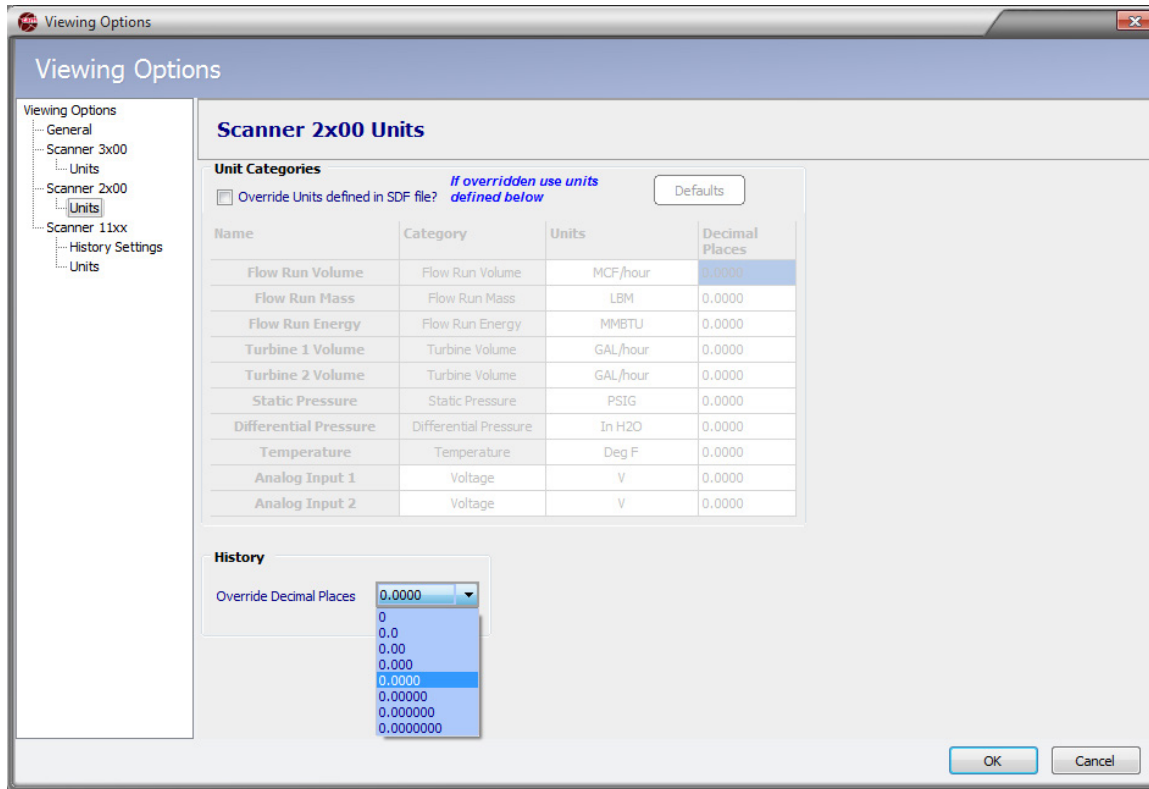

Figure A.3—Scanner 2x00 decimal override selection
2. Click in the *Override Decimal Places* dropdown menu (Figure A.3) and select the number of decimal places to display. Up to seven decimal places are available.